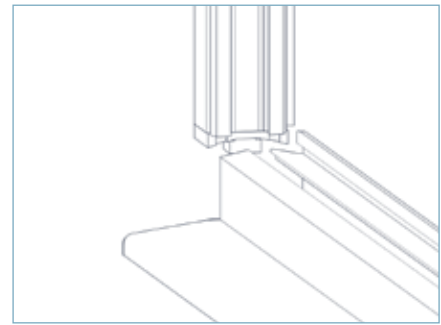

FIG 4A
▶ 4.4. Position the jambs into the tracks using the connectors provided as shown in FIG 4A.